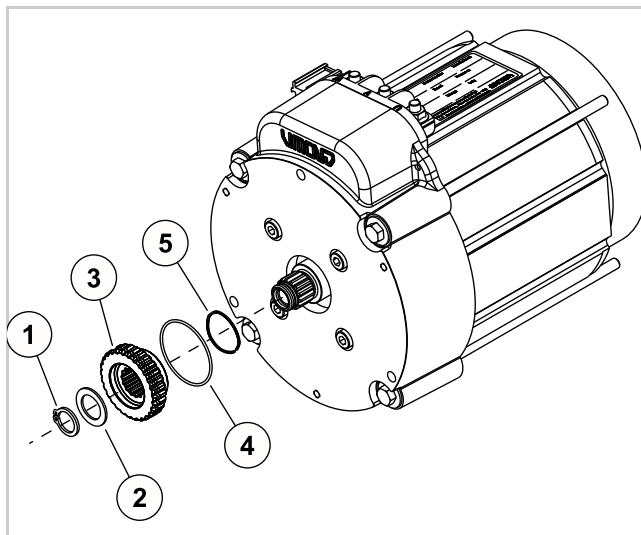

Fig. 36 (30012)
6. Disassemble the retaining ring (1, Figure 36), the washer (2), the brake hub (3), the two O-rings (4), and the spring (5) from the traction motor.
5. See Figure 36. Tighten the lugnuts (1) in a cross-pattern with a socket (2) and ratchet (3). Do not use power tools.